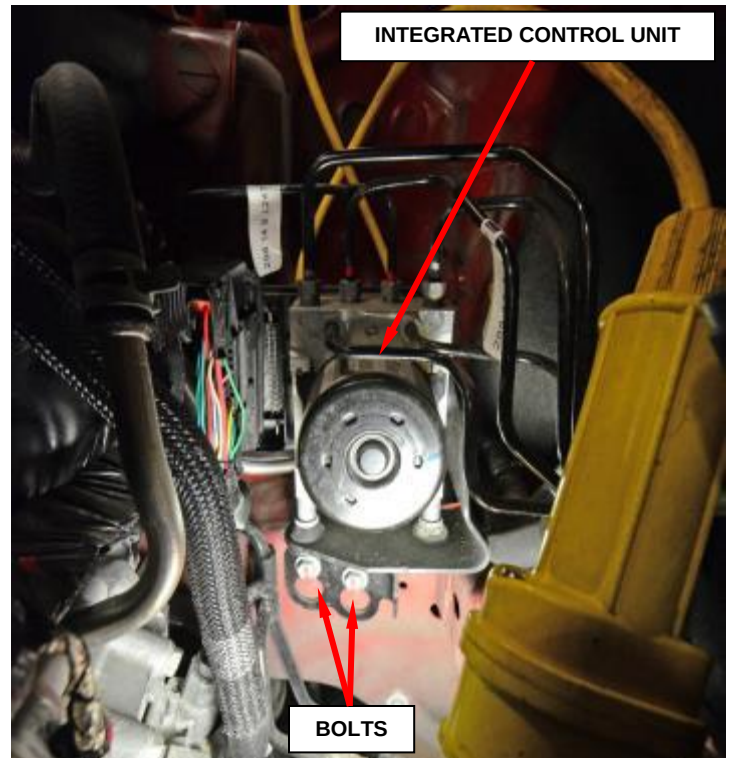

Figure 20 – ICU Mounting Bolts
2. Loosen, but do not remove, the two mounting bolts attaching the Integrated Control Unit (ICU) mounting bracket to the body (Figure 20).